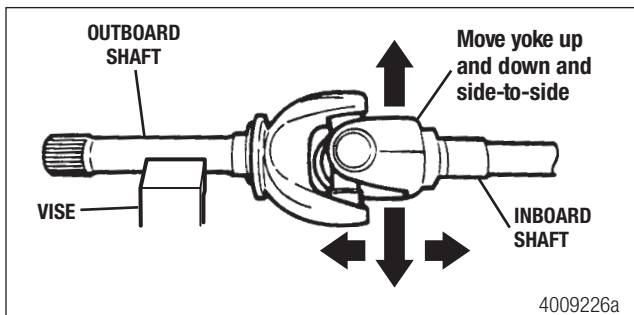

Figure 4.1
1. With the axle shaft removed, hold the INBOARD shaft with both hands. Secure the outboard shaft end in a vise. Figure 4.1